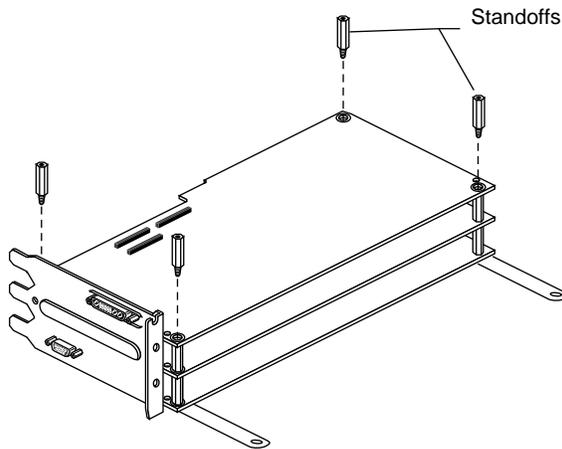

Figure 1-20 Installing the Standoffs
4. Install the four standoffs in the same corner screw holes from which you removed the screws. See Figure 1-20.